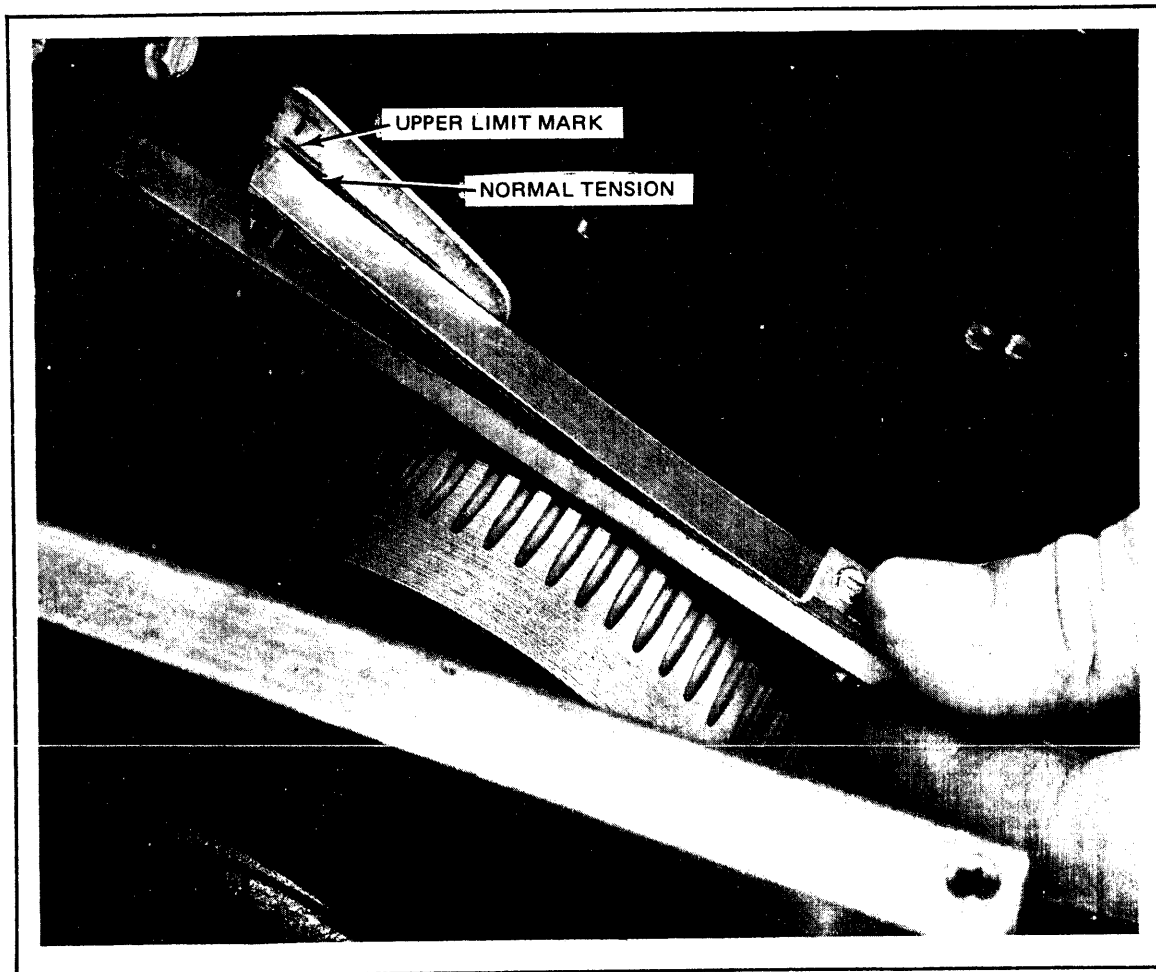

Figure 39 Checking Shuttle Drive Belt Tension, Using Tensiometer
- b. Lay the tensiometer along the upper surface of the shuttle drive belt with the smaller end resting on the drive motor pulley, the pin on the belt surface, and the larger end pressed down and resting on the belt over the flywheel (figure 39). The guide plate should bear against the motor mount bracket to properly position the pin along the belt.